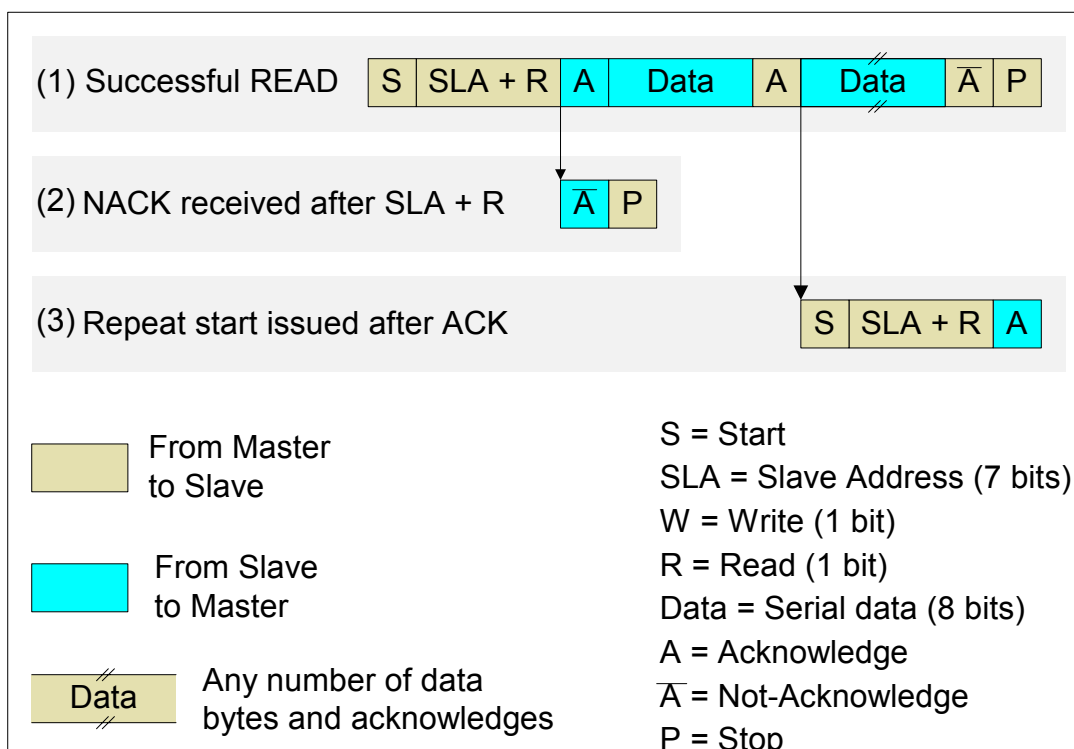

Figure 4. Typical Read Scenarios
Figure 4 shows the typical READ scenarios. (1) shows a successful READ operation. In (2), the